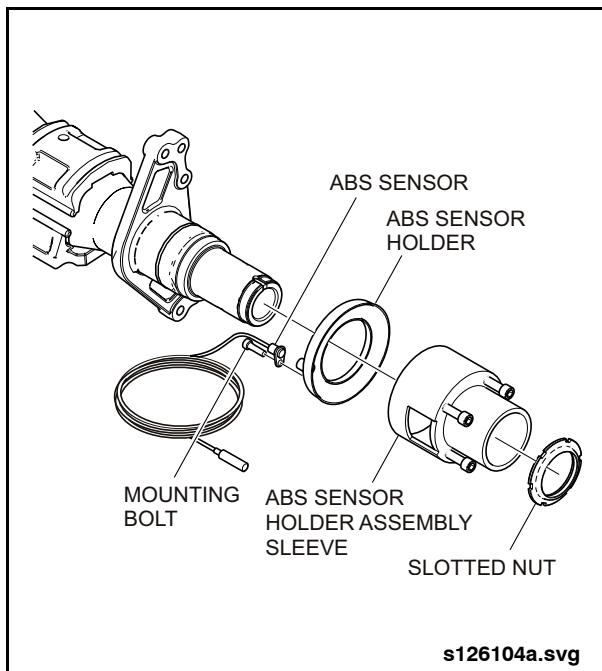

Fig. 2-147: Installing ABS Sensor
2. Place the open dished side of the ABS sensor holder against the assembly sleeve tool. See "Fig. 2-147: Installing ABS Sensor" on page 127.